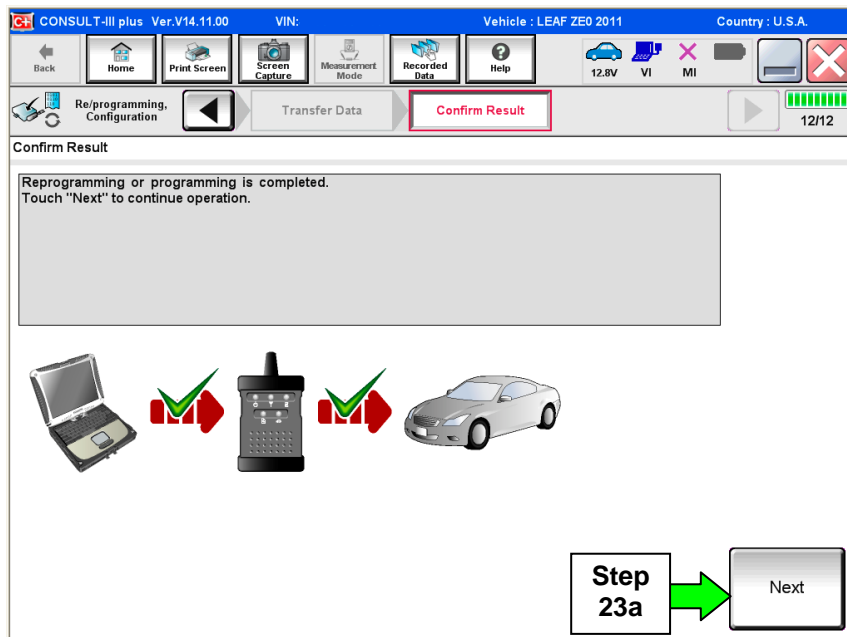

Figure 17
23. When the screen in Figure 17 appears, reprogramming is complete.